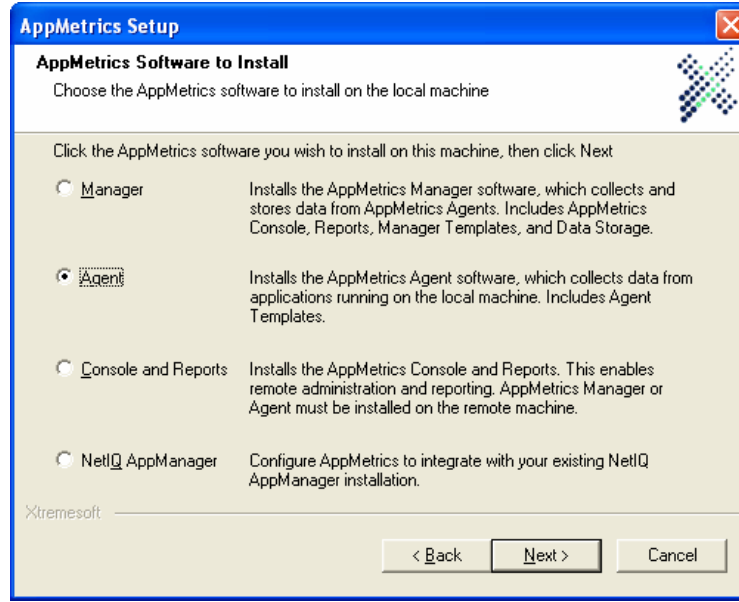

Figure 8
7. Choose the setup type. In this case click on the **Agent** radio button (see Figure 8). Click **Next**.